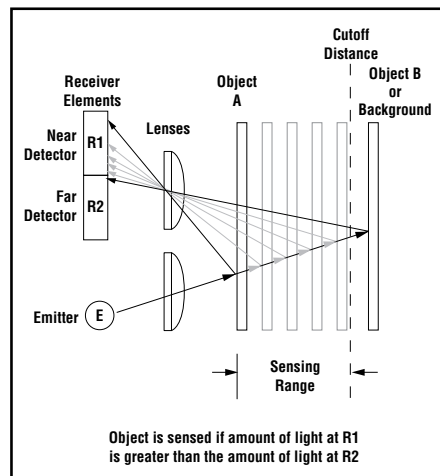

Figure 1. Fixed-field concept
The S18FF compares the reflections of its emitted light beam (E) from an object back to the sensor's two differently aimed detectors, R1 and R2 (see Figure 1). If the near detector (R1) light signal is stronger than the far detector (R2) light signal (see object A, closer than the cutoff distance), the sensor responds to the object. If the far detector (R2) light signal is stronger than the near detector (R1) light signal (see object B, beyond the cutoff distance), the sensor ignores the object.